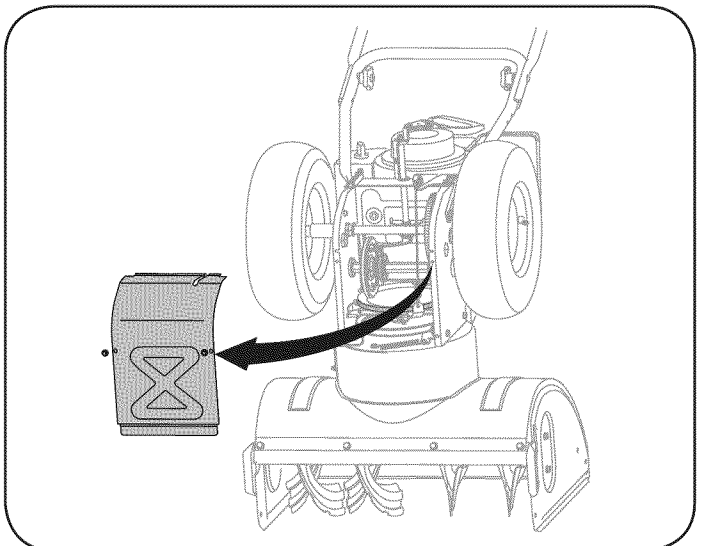

Figure 26
5. Remove the frame cover from the underside of the snow thrower by removing four self-tapping screws which secure it. See Figure 26.
- Remove the frame cover from the underside of the snow thrower by removing the self-tapping screws which secure it. Refer to Figure 26.